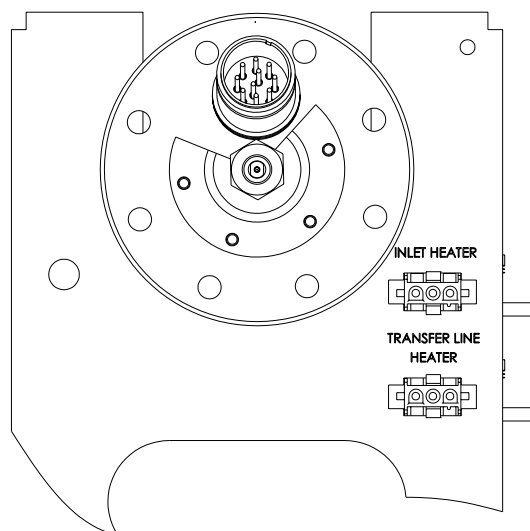

Figure 1: Ionizer Flange
6. Unplug the heater, which is bolted to the ionizer flange and plugged into a plastic connector directly behind the ionizer, Figure 1.